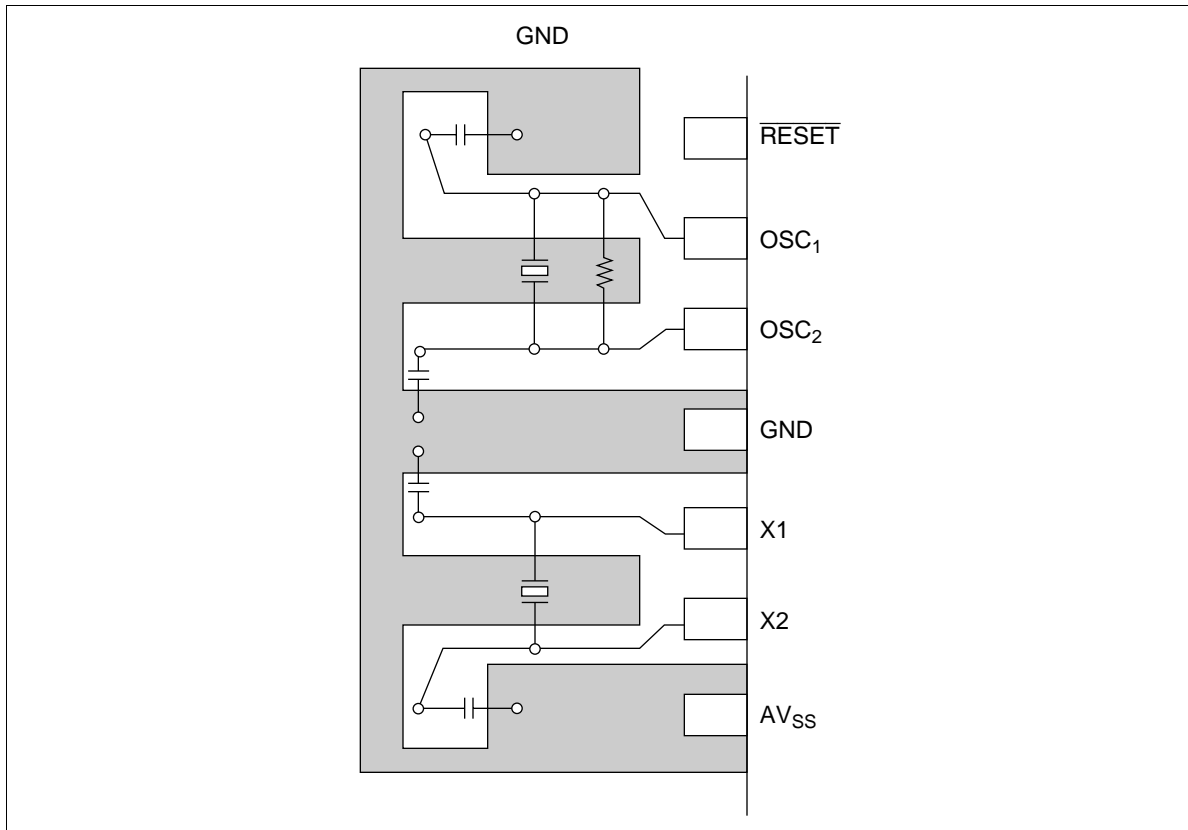

**Figure 24 System Clock Selection Register 2 (SSR2)**
**System Clock Selection Register 2 (SSR2: \$028):** Four bit write-only register which is used to select the system clock divisor (figure 24).